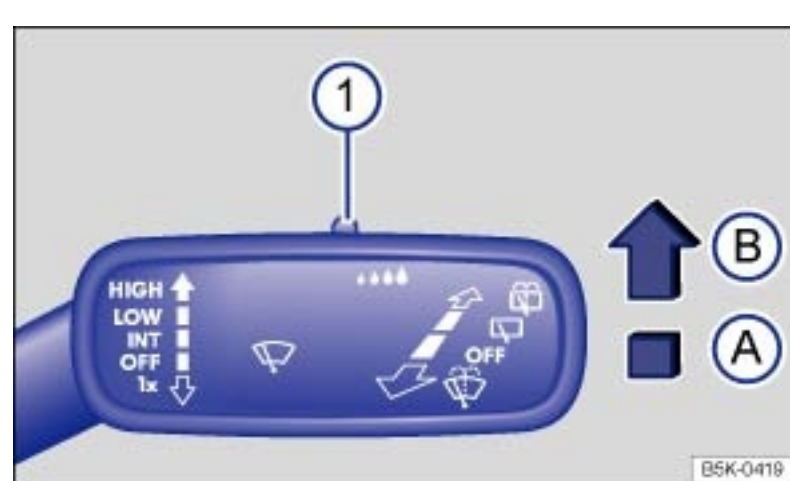

Fig. 91 Windshield wiper lever: Adjusting the rain sensor ① (if equipped).
When switched on, the rain sensor automatically shortens or lengthens the time between wiping intervals depending on how hard it is raining →  . The rain sensor's sensitivity can be adjusted manually → Fig. 91 ① . Manual wiping (vehicles without rain sensors), see → Windshield wiper lever .
Push the lever into the desired position → Fig. 91 :